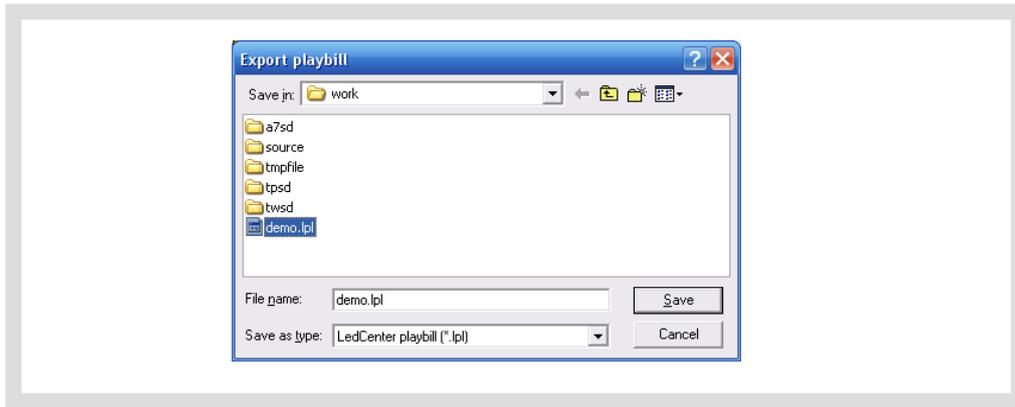

Figure30 Dialog box of export playbill
- 2) Select export position in the dialog box “Export to playbill” (as shown in Figure30) and enter the export file name. Click “Save”. The playbill file of current panel will be stored to the file.